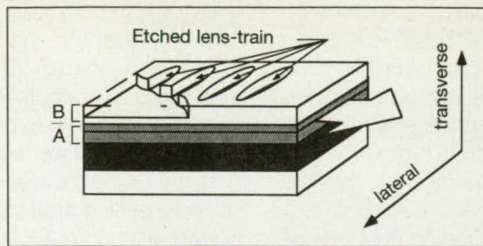

Figure 2. After lens etch, the **integrated lens train in the secondary part (B) of the waveguide** in a RLT laser provides divergence.
Figure 2. The high-gain harmonic-generation free-electron laser experiment uses an electron beam and an undulator to generate and amplify coherent harmonics of a seed laser. The undulator sections are superconducting electromagnets wound on a low-carbon steel form.
A novel URSL approach is shown in Figure 2. In this device the lasing mode is shared between two parts of a "double" optical waveguide. The main part (A) is a conventional quantum-well gradient-index separate carrier heterostructure (GRIN-SCH) design that provides gain and transverse waveguiding for the lasing mode. The second part of the waveguide (B) is located above the main part and causes the lasing mode to diverge laterally. This divergence results from a lateral variation of effective refractive index that is achieved by integrating diverging "lens-like" elements into part B of the waveguide.
are etched into the thin GaAs layer. Figure 2 is a schematic of the wafer after the lens etching step. The wafer is then returned to the MOCVD reactor for the second growth, in which the upper cladding and p-side contact layers are added. The sub-